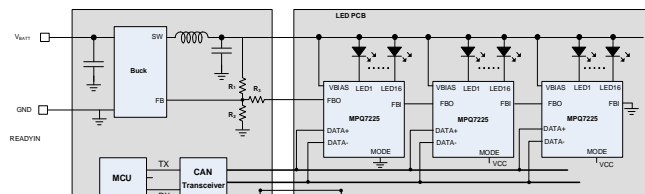

Figure 21: AFC Modulator Network
Figure 21 shows the AFC modulator network.
For example, when the MPQ7225 has 2 LEDs in series ($V_{LED} = 6.3V$), set $V_{BIAS_O} = 7.1V$ when FBO is open. If the DC/DC converter's V_{FB} is 0.8V (based on Equation (6)), select $R_1 = 100k\Omega$ so that $R_2 = 12.7k\Omega$. If the N is set to 100 via the OTP, set $R_3 = 100k\Omega$. Then the pre- V_{BIAS} voltage is 6.71V based on Equation (5). When N changes from 14 to 244, V_{BIAS} changes from 5.9V to 7.6V, so consider the pre- V_{BIAS} value set via the OTP, as well as resistor selection when making this connection. The connection in Figure 21 minimizes the V_{BIAS} range.